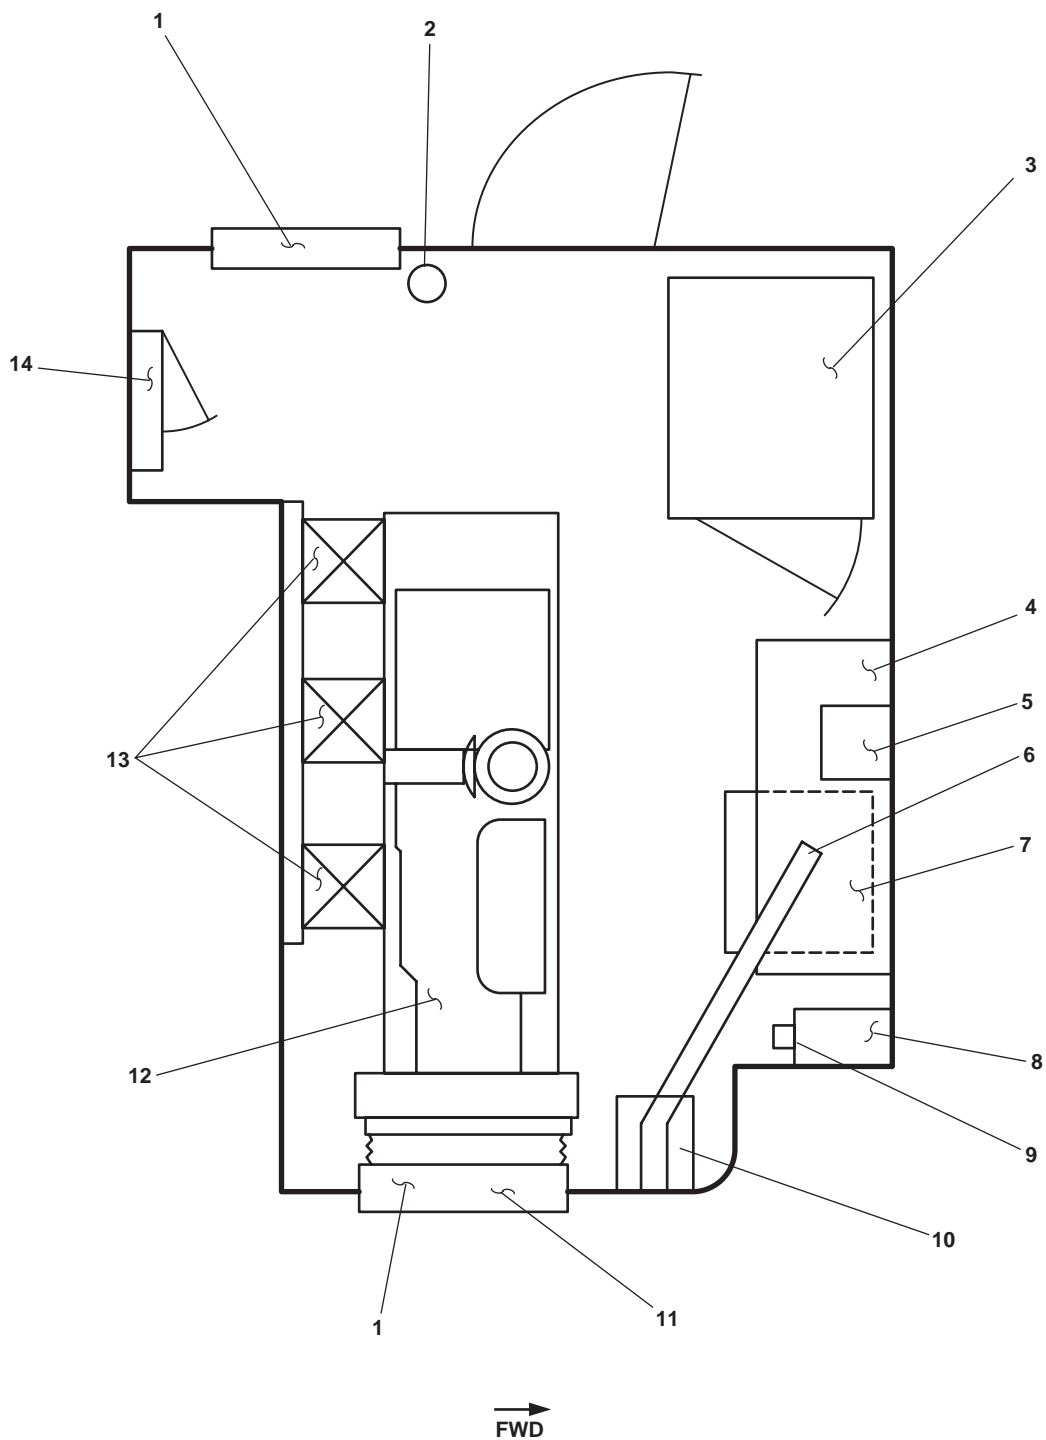

Figure 9. Emergency Diesel Generator Room
1. Fire flap (figure 9, item 1). The fire flap can be manually closed in an emergency to deny oxygen to the space.
2. Fire extinguisher (figure 9, item 2). The portable fire extinguisher is used to put out small fires on the vessel.
3. Emergency switchboard (figure 9, item 3). The emergency switchboard controls various emergency electrical circuits throughout the vessel.
4. Fuel oil day tank (overhead) (figure 9, item 4). The fuel oil day tank stores fuel oil for the emergency diesel generator engine.
5. Intercom (above), sound powered telephone (middle), and telephone storage box (below) (figure 9, item 5). The intercom, sound powered telephone, and telephone storage box provides communication to the rest of the vessel.
6. Battery box vent to atmosphere (figure 9, item 6). The battery box vent vents explosive gases from the battery box to the atmosphere.
7. Battery box (figure 9, item 7). The battery box contains starting batteries for the Emergency Diesel Generator (EDG).
8. Vent trunk (figure 9, item 8). The vent trunk provides a junction where vents from other spaces interconnect.
9. EDG starting battery switch (figure 9, item 9). This switch selects which battery bank starts the EDG.
10. Battery charger (figure 9, item 10). The battery charger maintains the battery charge when the engine is at rest.
11. Air intake supply vent (figure 9, item 11). This vent provides intake air to the diesel engine.
12. Emergency diesel generator set (figure 9, item 12). The emergency diesel generator set provides electrical power to the vessel's emergency circuits in the event of the ship's service diesel generator failure.
13. Transformers (overhead) (figure 9, item 13). The transformers step down 440 Vac to 120 Vac.
14. 120V emergency load center distribution panel (figure 9, item 14). This panel controls the distribution of electrical power to the vessel's 120V emergency lighting and distribution panels as well as to the general alarm battery charger and the EDG jacket water heater.